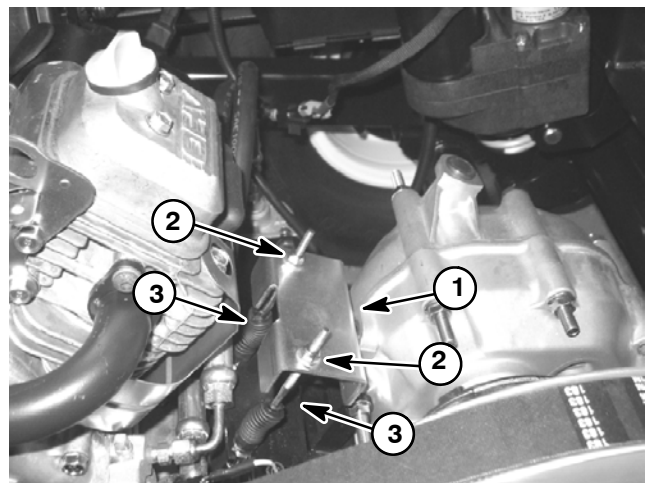

Figure 24
7. Remove lock nut that secures the select lever assembly to the transaxle selector shaft (Fig. 24). Loosen jam nuts securing both shift cables to the cable bracket on the transaxle. Separate select lever and shift cables assembly from the transaxle.
6. Position select lever assembly and shift cables to the transaxle (Fig. 24). Secure select lever assembly to the selector shaft with lock nut. Secure both shift cables to the cable bracket with jam nuts.